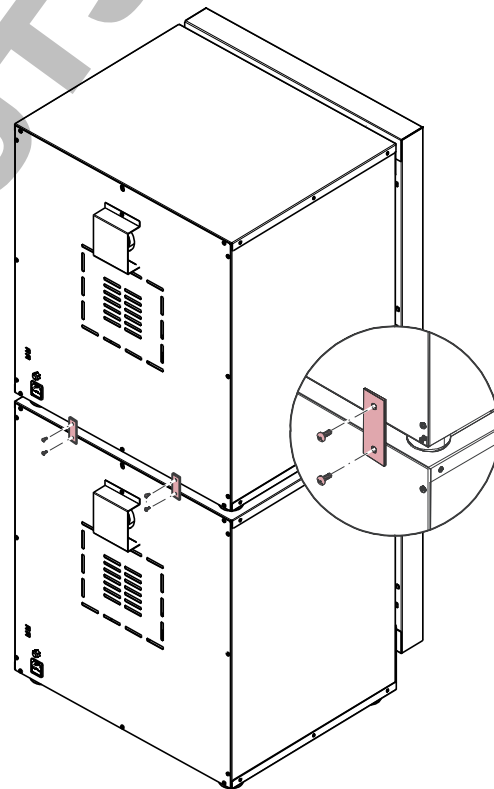

Figure 5: Placing two AL01-06/07 devices on top of one another
3. Fasten two flat assembly bars with these screws at the upper edge of the rear panel (see Figure 5).